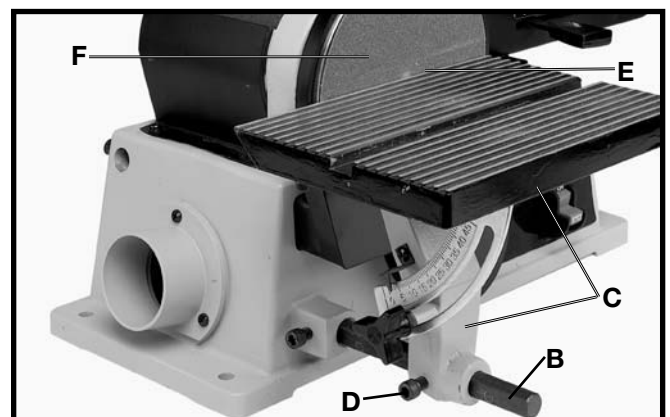

Fig. 12
2. Slide table assembly (C) Fig. 12, onto rod (B) as shown.
3. Thread M8x1.25x20mm hex socket head screw (D) Fig. 12, into hole in table support bracket as shown. Align flat on rod (B) with screw (D) and tighten screw (D).
4. **⚠️ WARNING: TO AVOID TRAPPING THE WORK OR FINGERS BETWEEN THE TABLE AND SANDING DISC, THE TABLE EDGE (E) FIG. 12, SHOULD BE POSITIONED A MAXIMUM OF 1/16" AWAY FROM SANDING DISC (F). LOOSEN SCREW (D) AND ADJUST TABLE ACCORDINGLY.**